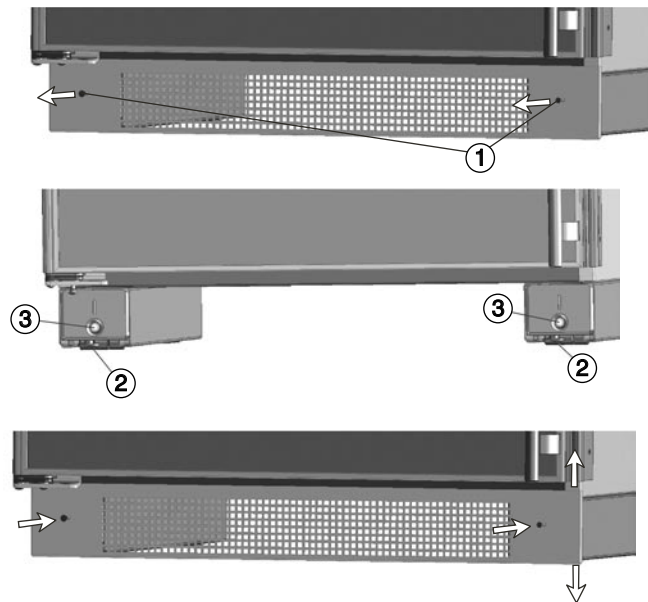

Figure 2
Leveling the Refrigerator - Figure 2
1. Loosen the lower air vent screws (**Fig. 2, 1**).
The height can be adjusted in front by twisting the leveling wheels (**Fig. 2, 2**).
2. Twist the adjusting bolt (**Fig. 2, 3**) to set up the back of the refrigerator.
6. Using the adjustable roller base, raise the unit until the compressor mounting plate makes contact with the brackets. Make sure the front levelers are firmly on the floor to prevent appliance from tipping forward. Refer to "Leveling the Refrigerator" Fig. 2.